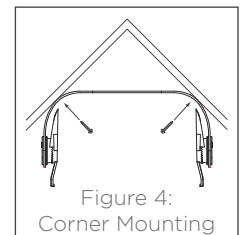

Figure 4: Corner Mounting
- If the installation requires that the speaker be mounted in a corner, attach the bracket with hardware (not included) through the slots in the angled corners (see figure 4).